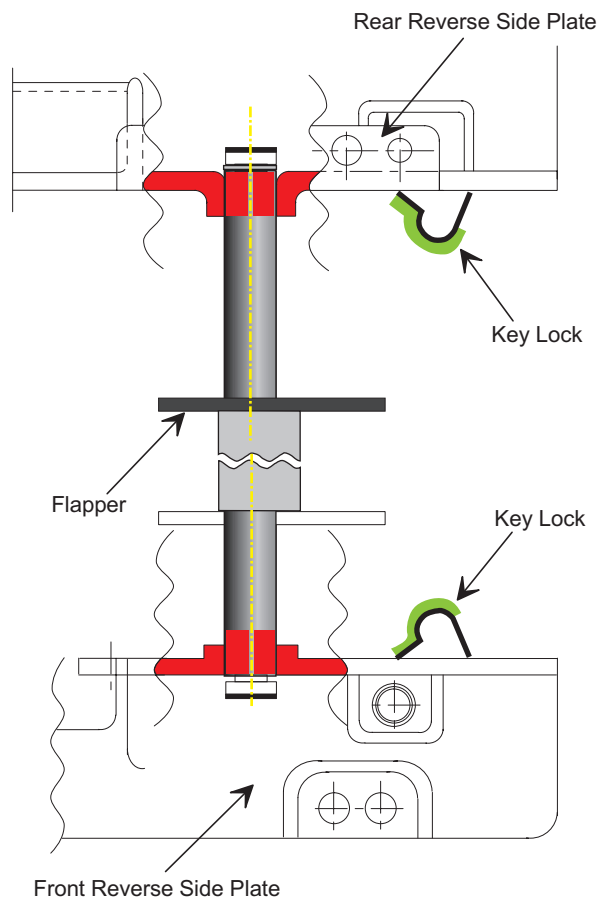

Figure 6-21. Lubricating Point (12)
- ❑ Sliding parts for the flapper shaft and front and rear reverse side plates. (Colored areas in Figure 6-21)